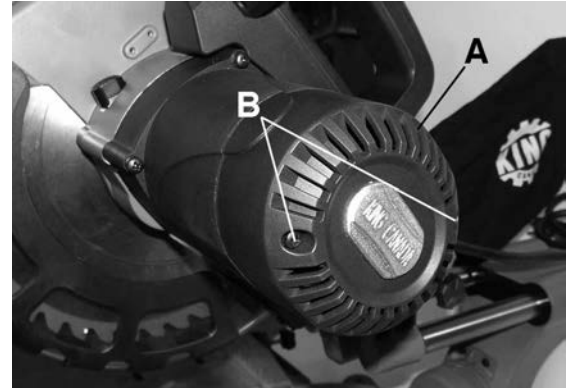

FIGURE 22
Remove and check the carbon brushes regularly (normally after 50 hours of use). The carbon brushes are installed inside the motor housing. Using a screwdriver, remove the 2 pan head screws (B) Fig.22 that hold the motor housing cap (A) in place.